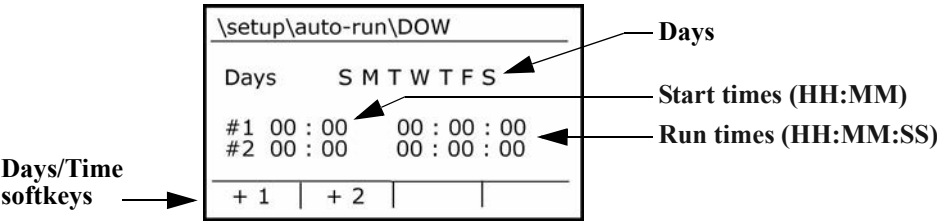

Figure 4–5: Days of Week Setup display
3. Press one of the Days/Time softkeys. The Days of Week Setup display appears (Figure 4–5). Either #1 or #2 is highlighted, depending upon which softkey you pressed.
6. Press , to modify, then press  to highlight the next time field in sequence. Figure 4–5 identifies the time fields according to hours (HH), minutes (MM) and seconds (SS).